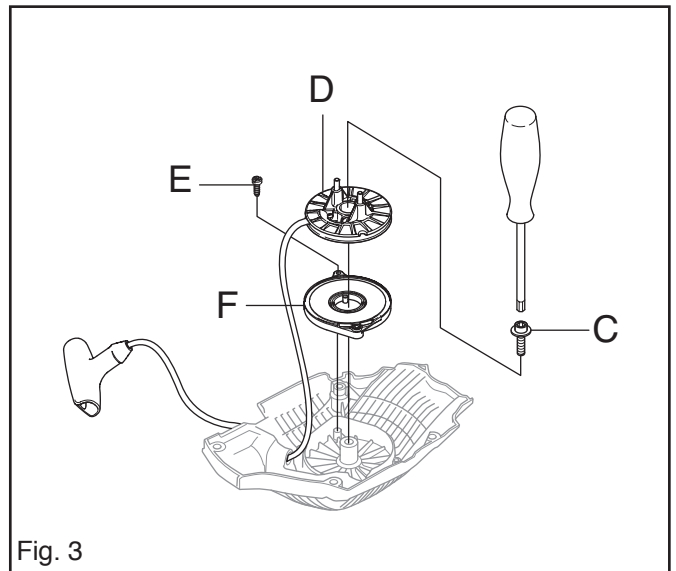

Fig. 3
4. Remove the central bolt (C) and take out the washer and starter pulley (D). See fig. 3.
5. Fit the washer and bolt (C). See fig. 3. Tighten the bolt to 4 Nm.
7. Release the flywheel nut. Unscrew the nut until it comes level with the outer end of the shaft thread. See fig. 3.